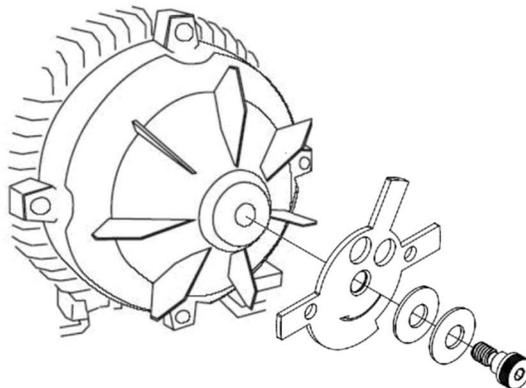

Figure 4a: Speed Wheel Installation (Option 1)
Option 1: Using a 3/16" hex key, the 3/8" shoulder bolt, and the (2) 3/8" x 1" disc spring washers, install the speed wheel as shown in Figure 4a below. The tightening torque on the 3/8" shoulder bolt should be 180-220 in-lb. Make sure that the arrow on the speed wheel points in the motor's intended direction of rotation.